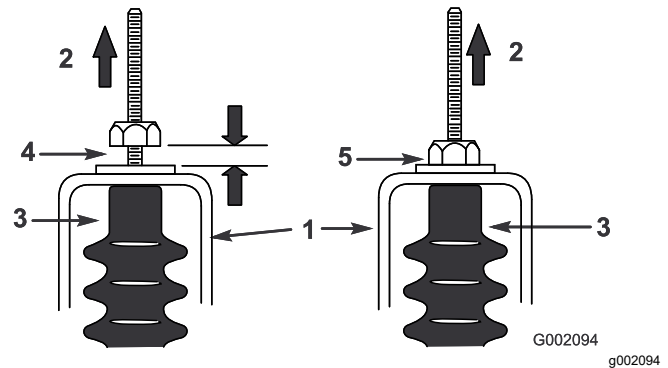

Figure 47
- Pull up on each shift cable and ensure that there is a 0.76 to 1.52 mm (0.03 to 0.06 inch) between the nut/washer and the neutral bracket (Figure 47).